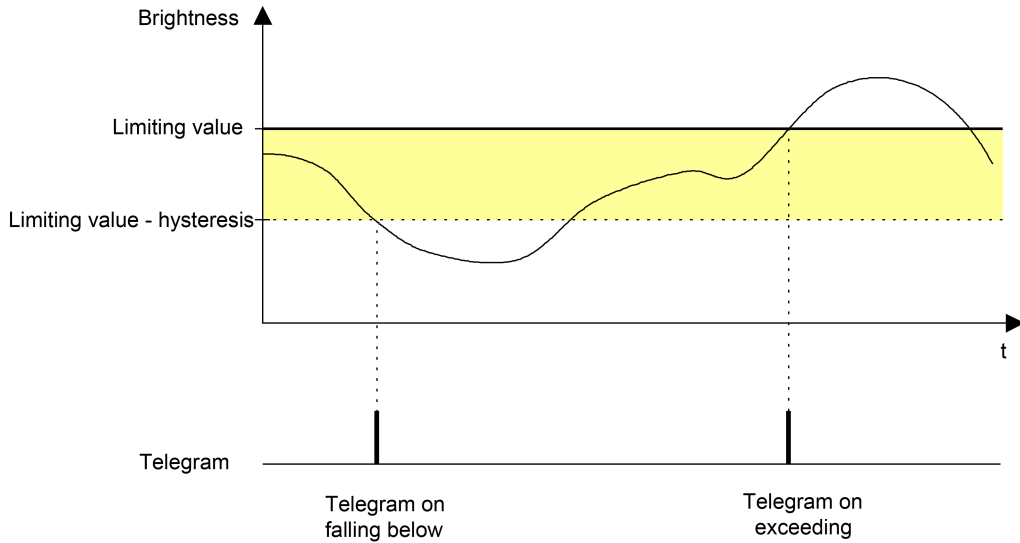

Figure 64: Example 1 of the limiting value definition
1. Brightness limiting value = Upper threshold (see figure 64)